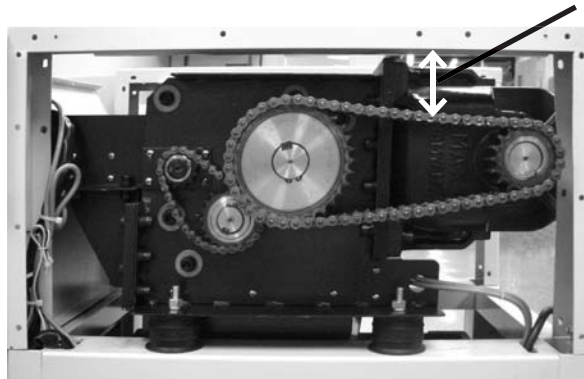

Fig. 6
3. The sagging of the chain (see Fig. 6) should be 9 - 14 mm, measured from the top inside of the frame to the cutting head chain.
5. Mount EvenFlow™ Oiler pump to the right loading table support bracket, matching up the four (4) pre-drilled mounting holes, using the supplied screws (fig. 6).
6. Insert tubing into quick connect fitting on pump and fill pump with oil. Pump handle back and forth several times to introduce oil into the system and remove air from the line. Once oil appears from nozzles, check for any leaks at all hose and fitting locations and tighten if needed (fig. 6).
11 Fig. 6